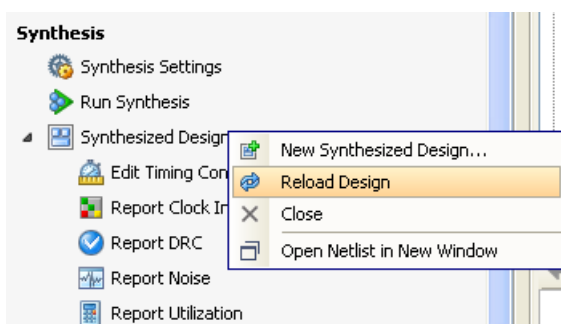

Figure 2-16: Reload Design
- **Reload the Design** — Use the **Reload Design** command, in the Flow Navigator popup menu as shown in Figure 2-16, to revert any changes and reload the original netlist, constraints, and target part of the design.